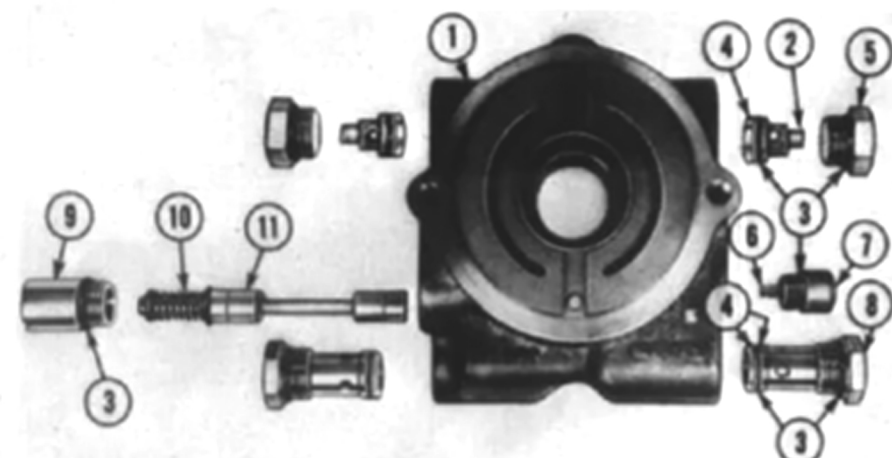

Fig. 121—Exploded view of center section assembly.
98. CENTER SECTION. The center section (Fig. 121) contains the shuttle valve, forward and reverse check valves and forward and reverse drive high pressure relief valves. To disassemble the center section, remove plugs (5) and check valves (2). Remove both high pressure relief valves (8). If not previously removed, remove spring plug (7) with spring (6) and the shuttle valve retainer plug (9). Withdraw the shuttle valve spool assembly. Remove the snap ring, washers and return spring (10) from the spool. Clean and inspect all parts. Check shuttle valve spool (11) and spool bore in body (1) for excessive wear or scoring.
Centering spring (10—Fig. 121) should have a free length of 1-59/64 inches and